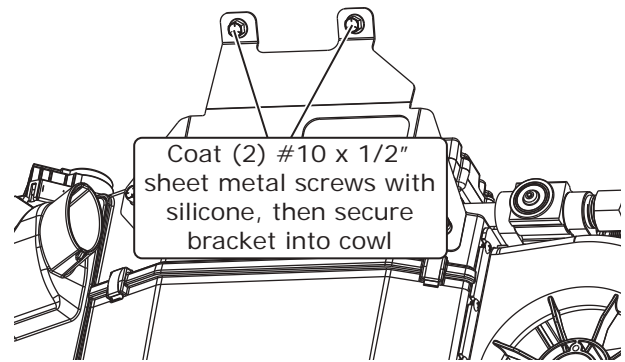

Figure 5
6. Lift module into position. Using the dash mounting bracket as a template, mark and drill (2) pilot holes into the cowl. Coat (2) #10 x 1/2" sheet metal screws with silicone, then secure the bracket into the cowl (See Figure 5, below).